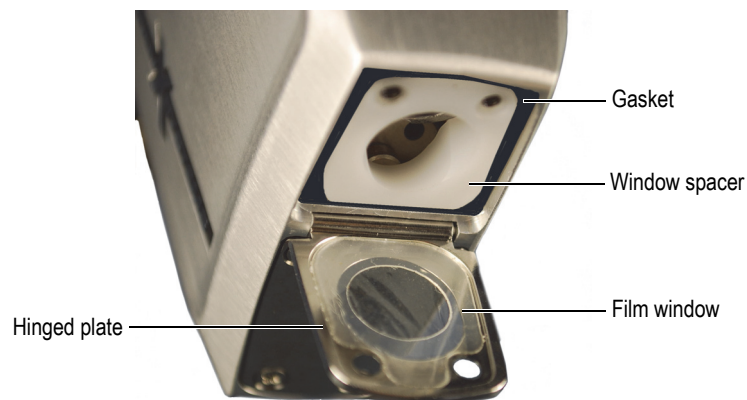

Figure 9-4 Film window exposed
3. Swing the hinged face plate outward to expose the film window (see Figure 9-4 on page 111).
3. Place the window assembly on the hinged plate, with the back surface of the film facing upward (see Figure 9-4 on page 111).